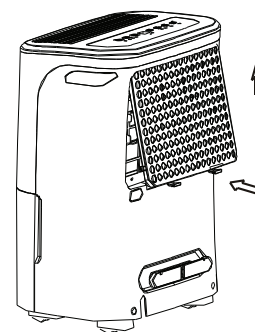

Fig. 10
- Insert the air filter into the unit from underside to upside. See Fig. 10.